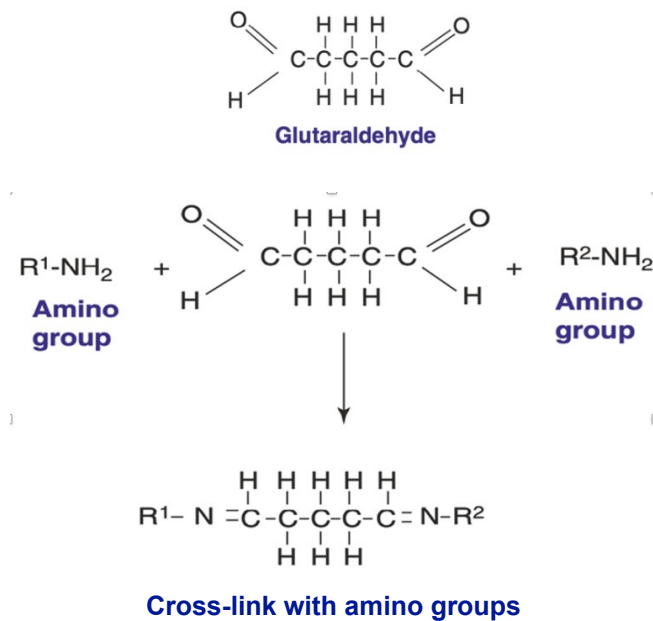
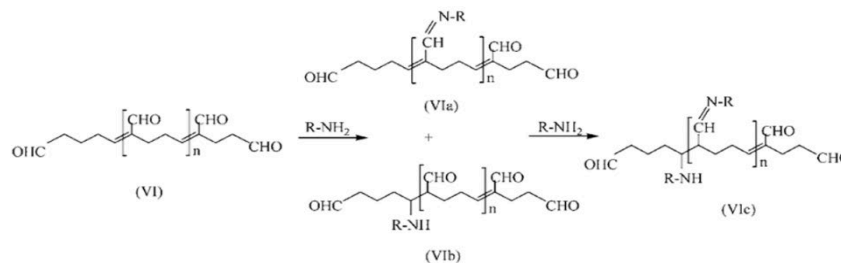

Fig 3 (from Basic and Advanced Laboratory Technique in Histopathology and Cytology)
Fig 4 (from Migneault I. et al. BioTechniques 2004)
Glutaraldehyde monomer is a five-carbon chain with two aldehyde groups locating on each end. Like formaldehyde, the aldehyde groups react with the amino group of proteins, particularly lysine side chains (Fig 3). Glutaraldehyde also forms oligomers or polymers that cross-link proteins more extensively, providing better ultrastructure preservation than formaldehyde (Fig 4). Tissue preparation for electronic microscopy (EM) requires glutaraldehyde fixation.